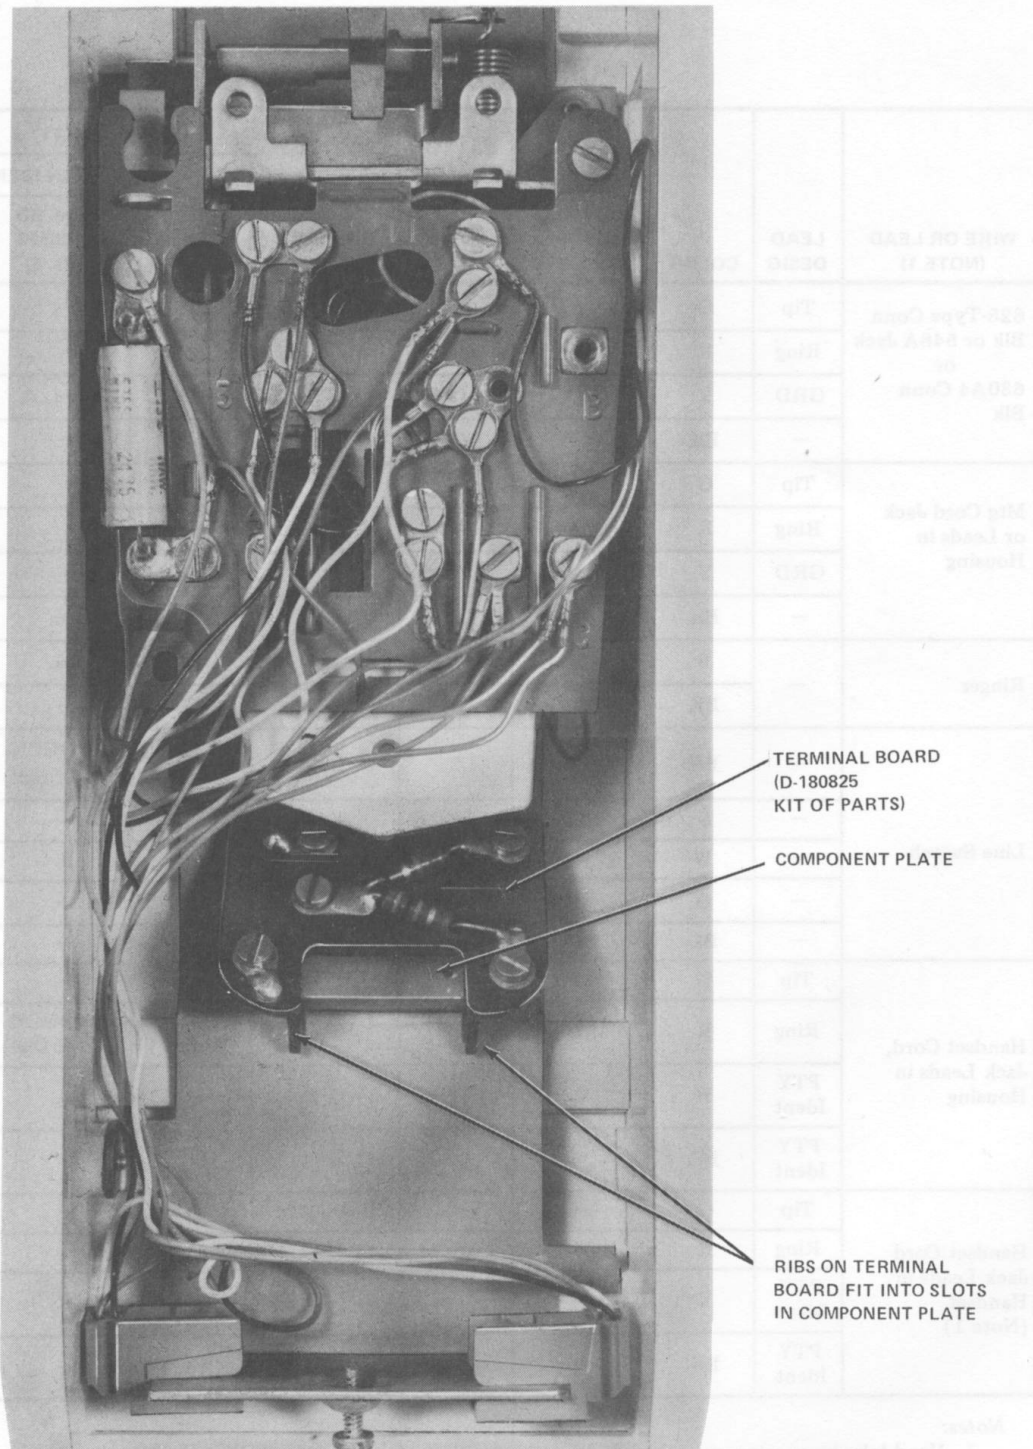

Fig. 6—Terminal Board (P/O D-180825 Kit of Parts) Installed in Housing
- (2) Refer to Fig. 6 for mounting of terminal board and to Fig. 8 and Table B for connection information.
- (3) Reassemble handset cradle to housing.